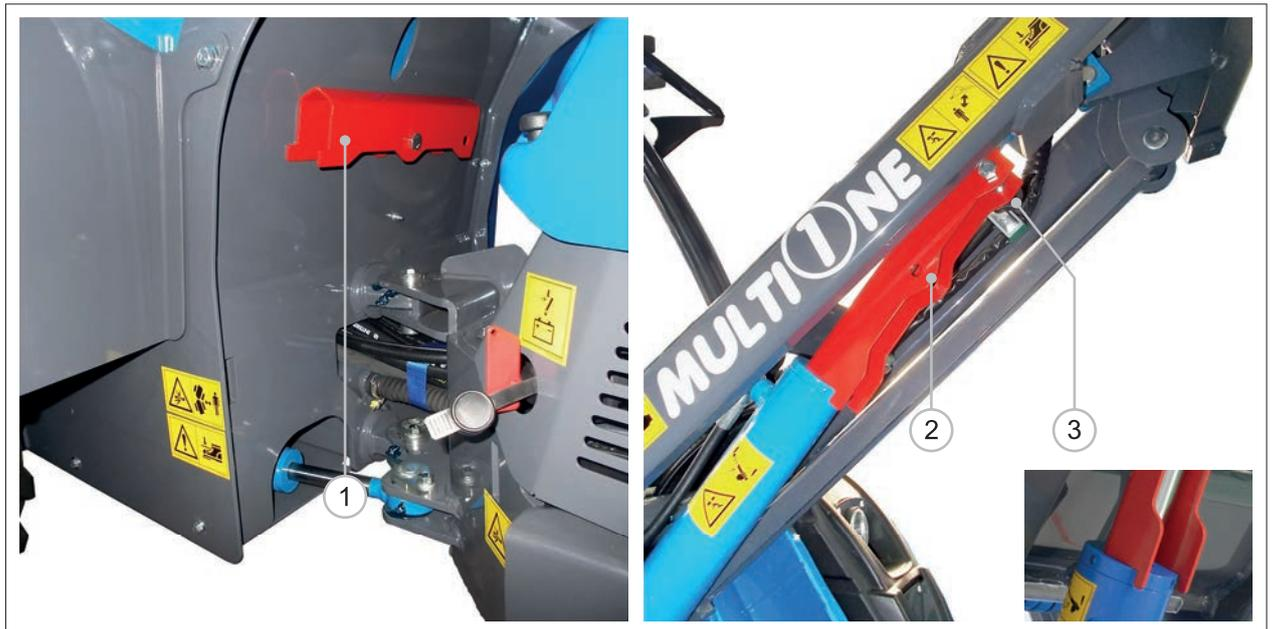

FIG. 31
- 4) Remove the safety stop placed under driver seat (**FIG. 31 - Ref. 1**).
- 5) Insert the bracket to block the lifting arm (**FIG. 31 - Ref. 2**).
- 6) Fix the bracket with the appropriate knob (**FIG. 31 - Ref. 3**).